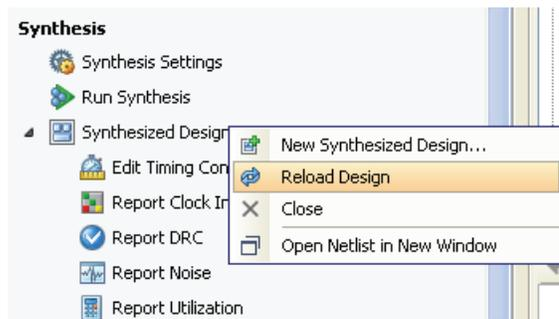

Figure 2-16: Reload Design
- Reload the Design:** Use the **Reload Design** command, in the Flow Navigator popup menu as shown in Figure 2-16, to revert any changes and reload the original netlist, constraints, and target part of the design.